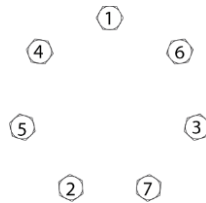

Figure 3: Bolt torque sequence
6. If shaft assembly requires disassembly to remove pilot ring (11), go to *Step 8* to reassemble shaft components.
- a) If shaft assembly did not have to be disassembled to remove pilot ring (11), replace pilot ring (11) down over shaft (29) using a slight twisting motion until it contact housing (29).
- b) Align bolt holes and install seven pilot ring bolts (10).
- c) Using bolt torque sequence shown in *Figure 3*, torque bolts to $69,8 \pm 7,5$ Nm [51.5 ± 5.5 ft. lb.]. Go to *DT 700 Motor Section Disassembly/Assembly*.
8. Reassemble shaft components in reverse order that components were removed from shaft (29).
- a) If shaft (29) used bearing spacer (13), it is necessary for spacer (13) to be replaced in correct position.
- b) After shaft components are assembled onto shaft (29), place retaining washer (14) in housing (19).
- c) Place high pressure seal (5) in groove in front of housing (19).
- d) Grasping output end of shaft (29), lower shaft assembly into housing (19).
- e) Rotate pilot ring (11) to align bolt holes and install seven pilot ring bolts (10). Pre-torque bolts to 13.6 Nm [10 ft. lb.].
- f) Using the bolt torque sequence shown in *Figure 3*, final torque all bolts to 69.8 ± 7.5 Nm [51.5 ± 5.5 ft. lb.].
- d. Place manifold (22) over rotor (21) with seal groove side up.
- e. Install manifold seal (5).
6. Install the commutator seal (7) into the commutator (23) with the metal side facing up.
- b. Place the commutator container onto the manifold (22) and then place the commutator onto the protruding end of the drive link (20) making sure that the seal side faces up.
7. Install the remaining body seal (6) in the groove in the face of the endcover (26).
- a. Install piston spring (25) into endcover (26), then the white backup seal (9) followed by the O-Ring seal (8).
- b. Lining up the alignment pin with the hole in the endcover, press piston (24) into the endcover (26).
- c. While holding the piston (24) in the endcover, lower the endcover assembly onto the motor.
8. Install the seven assembly bolts (28) into endcover (26) and pre-torque to 13.6 Nm [10 ft. lb.]. Using the bolt torque sequence shown in *Figure 3*, final torque all bolts to 69.8 ± 7.5 Nm [51.5 ± 5.5 ft. lb.].